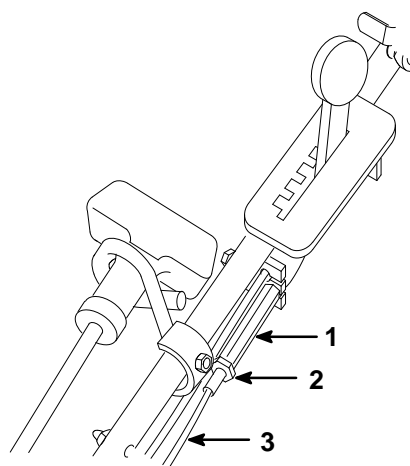

Figure 30
3. **ADJUST CABLE** (Fig. 30)—Loosen jam nut on brake cable. Insert 4.8-6.4 mm (3/16"-1/4") object between brake lever and handle. Turn cable adjuster on brake cable until slack is removed. Then tighten nut.